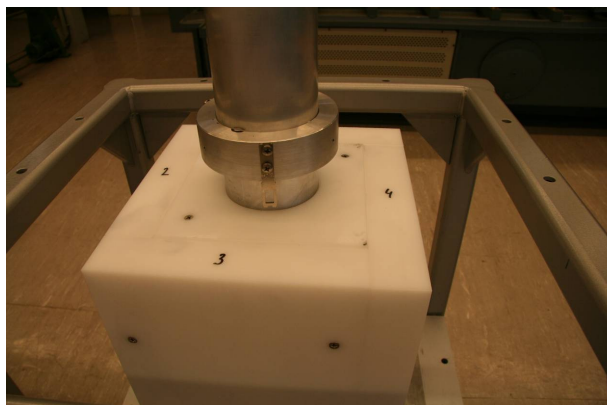
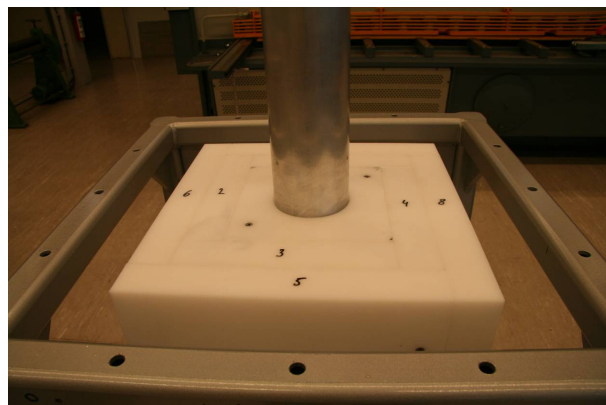

Figure 14: Central HDPE blocks, and blocks 1 to 4.
Figure 15: HDPE blocks 5 to 8 added.
1. With the source holder down, place the cadmium plate around it (at the bottom there is no aluminium plate), and stack all 10 central HDPE blocks. Align using the guiding tube. Place blocks 1, 2, 3 and 4 and fix with screws (Figure 14). Then, add blocks 5, 6, 7 and 8 (Figure 15).